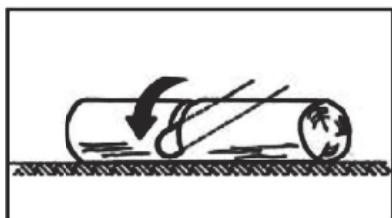
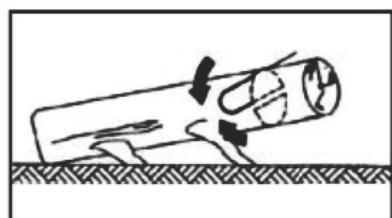

Fig.4A
Fig.4B
1.Log supported along entire length: Cut from top (over buck), being careful to avoid cutting into the ground(Fig.4A).2.Log supported on 1 end: First, cut from bottom (under buck)1/3 diameter of log to avoid splintering. Second, cut from above (over buck) to meet first cut and avoid pinching (Fig. 4B).